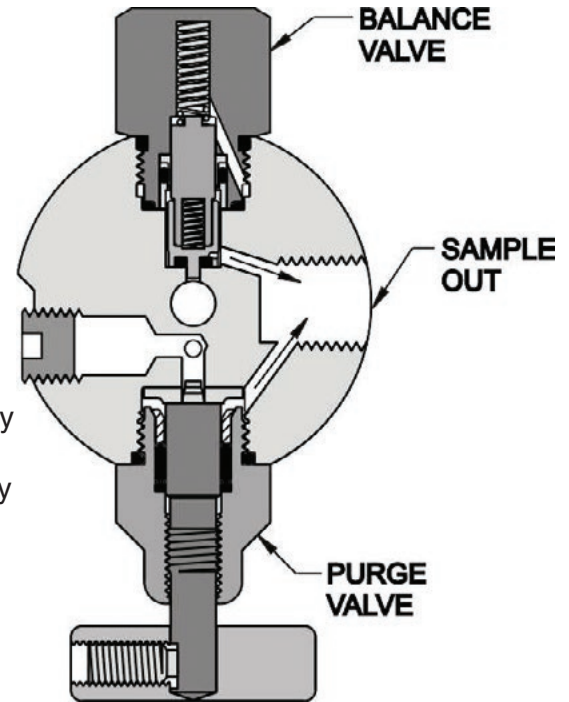

Figure 20: PF2 System Configurations
C. All PF2 Pump Style System Configurations (refer to Figure 20)